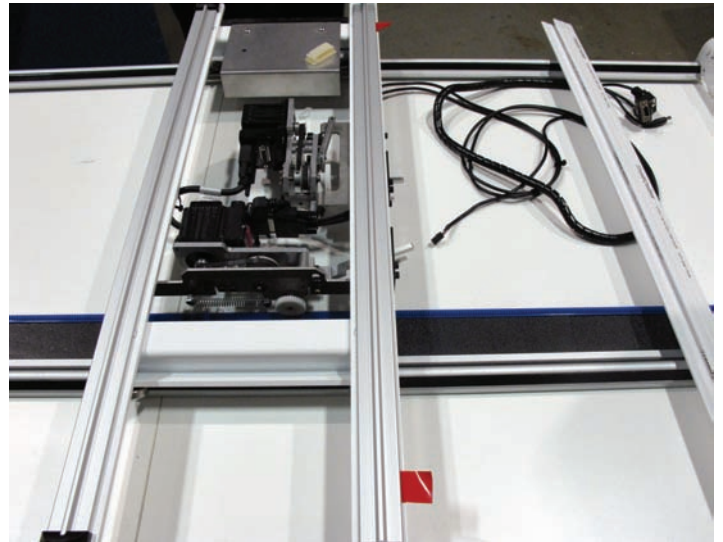
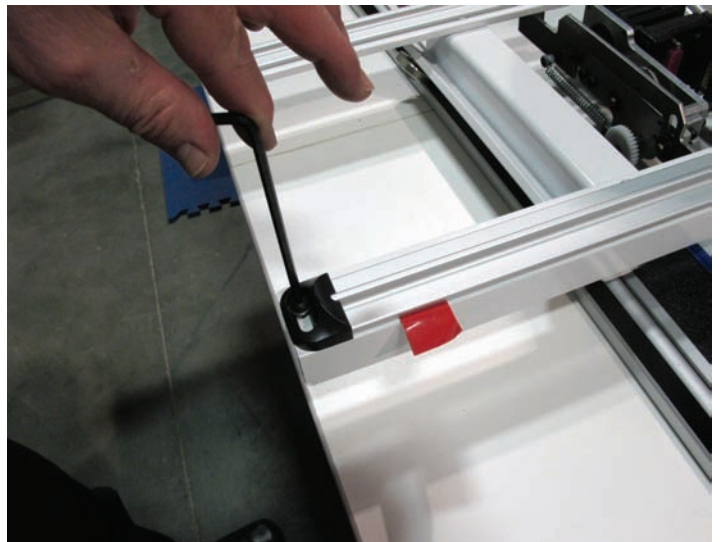

Figure 17
Figure 18
Step 10: Next, install the right-side track. Peel back the release film about 1-1/2" from both ends and fold it over at a 45 degree angle so it sticks out to the side of the track (**Figure 17**). Install the end caps and lightly tighten the screws (**Figure 18**). The track must be able to move in and out for the width adjustment to be done in the next step. **Do not stick the right-side track down at this time.**
Step 11: After the new wheels are installed on your machine (**Figure 18**), gently lift the machine onto the new tracks, lining up the wheels to the track (**Figure 19**). For safety purposes, this step may require two people.